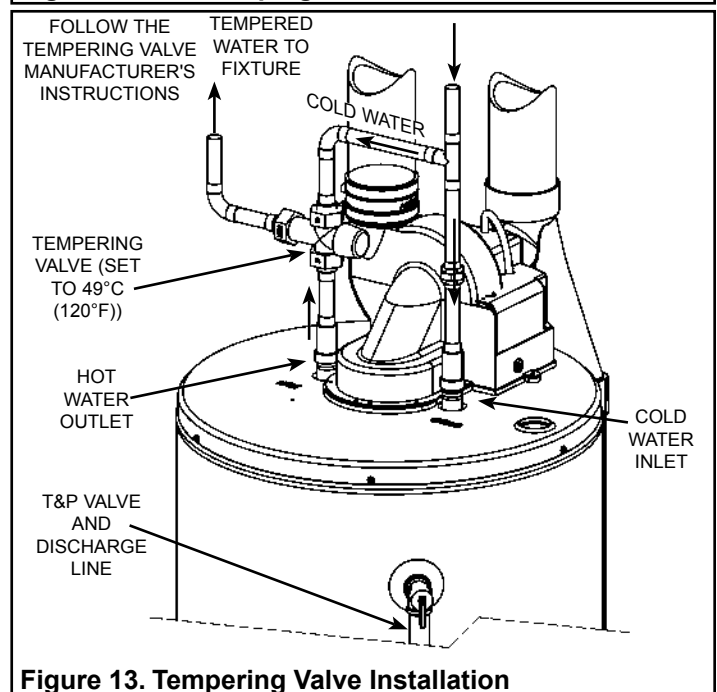

Figure 13. Tempering Valve Installation
3. The manufacturer of this water heater recommends installing a tempering valve in the domestic hot water line as shown in Figure 13. These valves reduce the point-of-use water temperature by mixing cold and hot water. Contact a licensed plumber or the local plumbing authority.